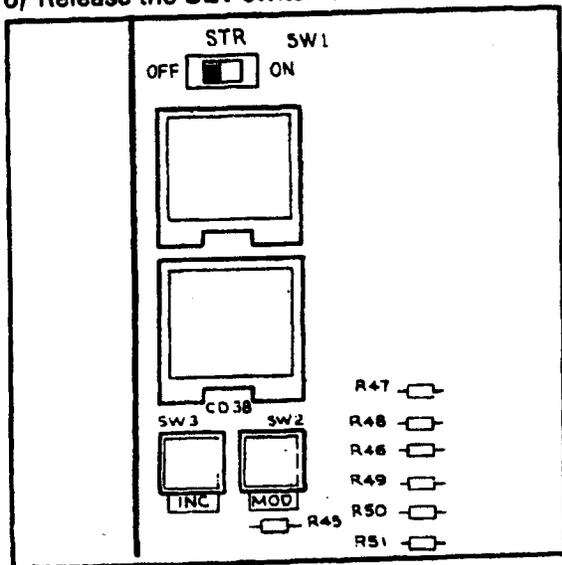

FIGURE 32
08.24 The HSMB is equipped with three switches and two LEDs (Figure 32). Looking from top to bottom, the functions of the switches are as follows:
- 1) Verify that the battery is connected on the HSMB (Figure 32).